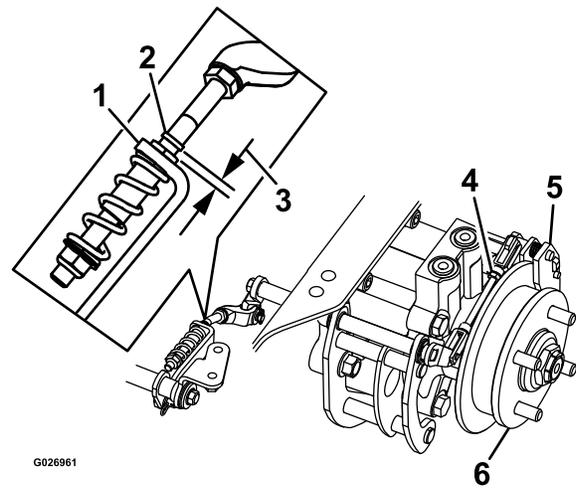

Figure 89
7. Check to see if there is a visible gap between the L-bracket and the linkage stop (Figure 89).